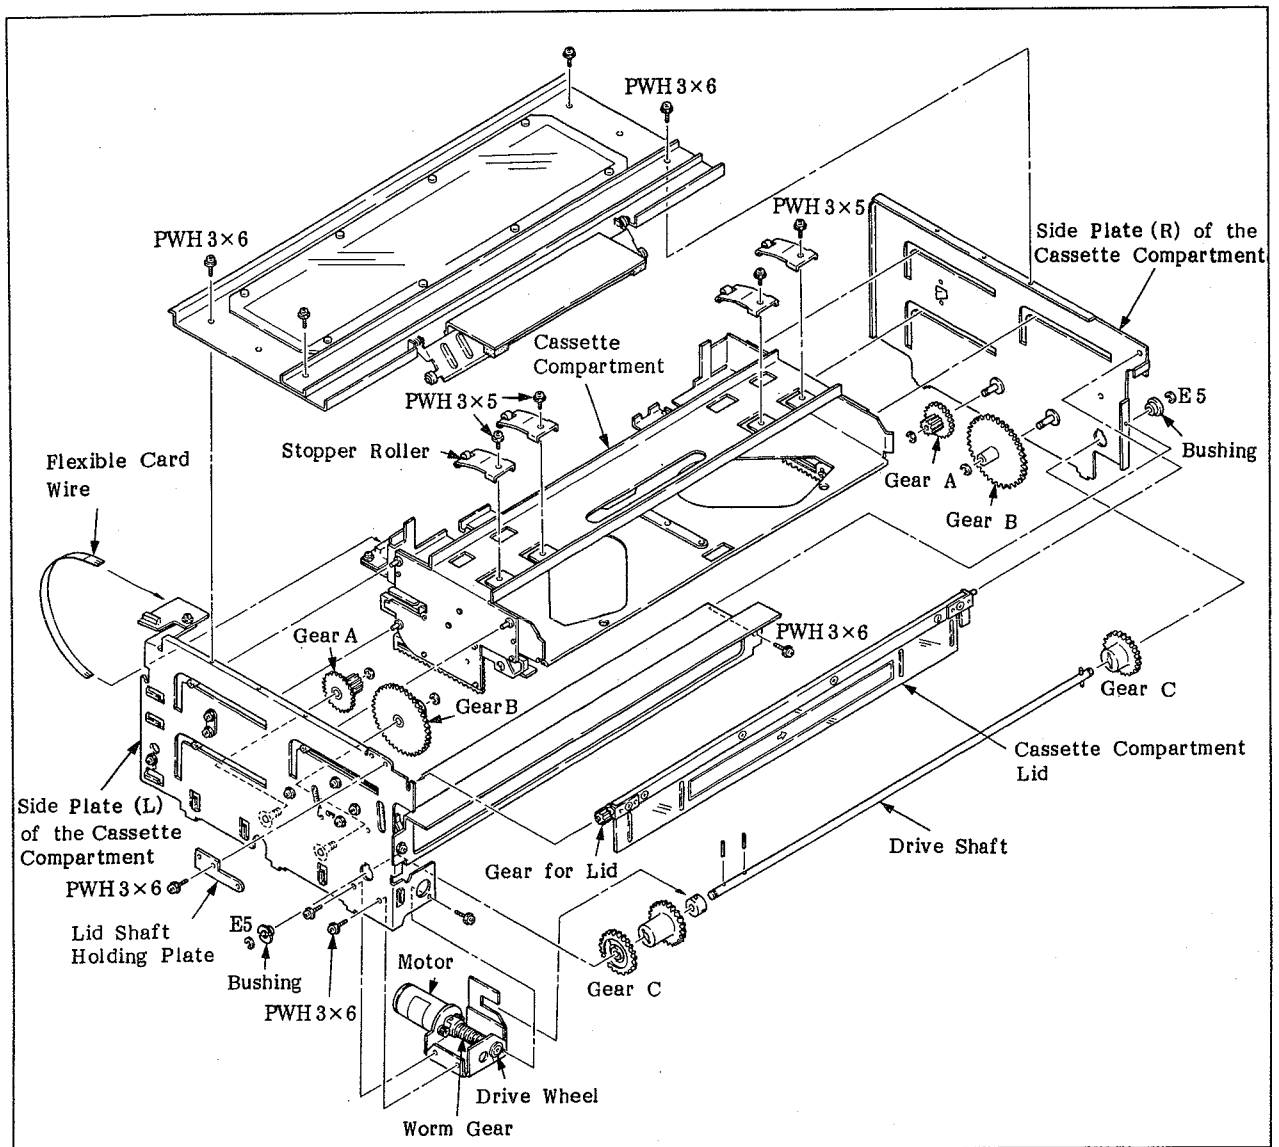

Fig. 6-23 Replacement of Components of the Cassette Compartment
2. Replace the motor with a new one by referring to Figure 6-23.